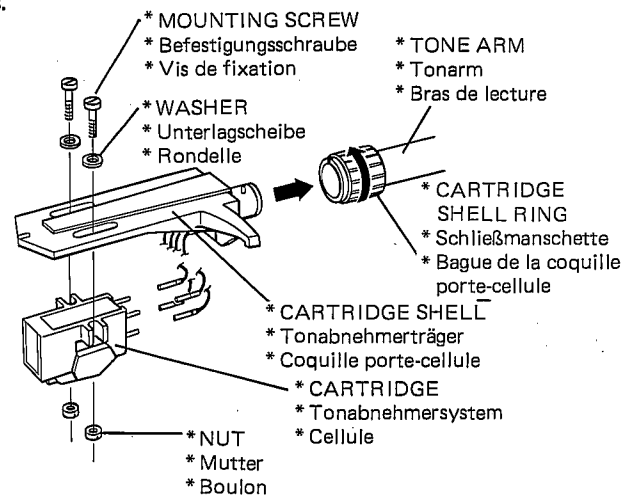

Fig. 12 / Abb. 12 / fig. 12
3. Plug cartridge shell into tone arm and tighten the cartridge shell ring by turning it counterclockwise. (Fig. 12)